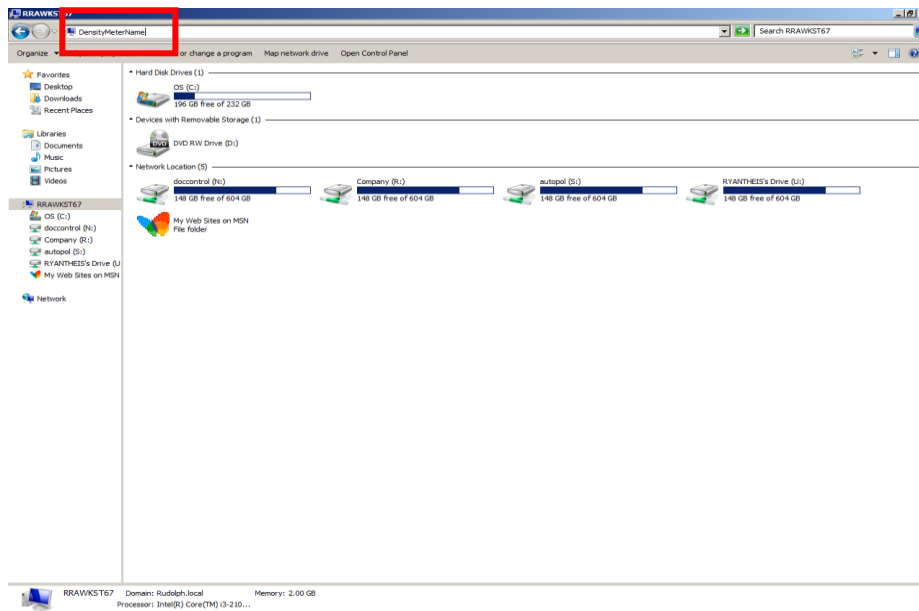

Figure 10.36 – Enter Density Meter name.
- 4) Once in the control panel select the Address bar at the top of the screen and type in the computer name of your Density Meter and hit Enter as shown in Figure 10.36.